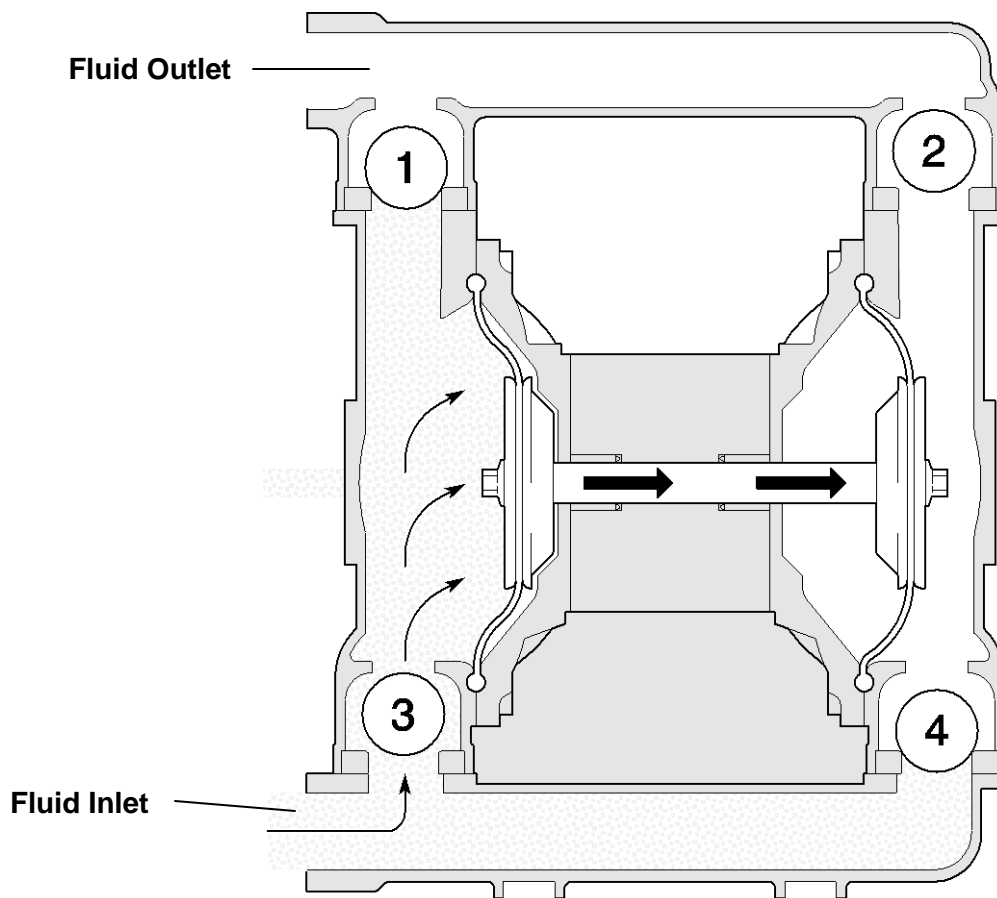

Figure 2 Pumping Fluid: movement to the right
Compressed air flows into the right air chamber, causing the right diaphragm to flex. This expansion creates a high pressure in the right fluid housing equal to the air pressure applied to the pump. The inlet check valve (4) of the right fluid housing closes, the outlet valve (2) opens, and the fluid is pumped through the outlet manifold. The pump shaft moves right, creating a vacuum in the left fluid housing. The left inlet check valve (3) opens, the left outlet valve (1) closes, and the fluid flows into the left fluid housing. See Figure 2 for an illustration of the cycle.